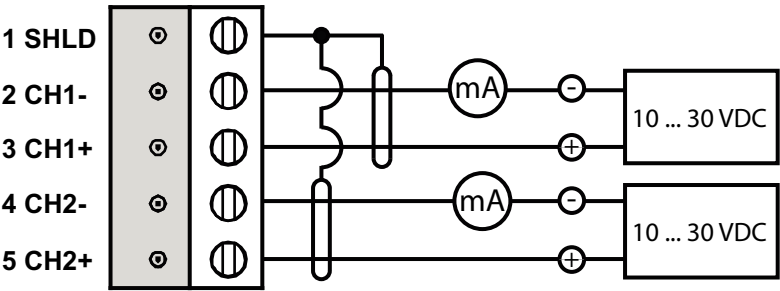

Figure 12 Isolated Current Loop Wiring
1) Terminal numbers 1 ... 5 in the first column of the wiring table refer to Figure 12 \(page 22\)
- 3. Connect the wires as instructed in Figure 12 \(page 22\) and Table 4 \(page 22\). Suitable wire size is 0.5 ... 1.5 mm2.